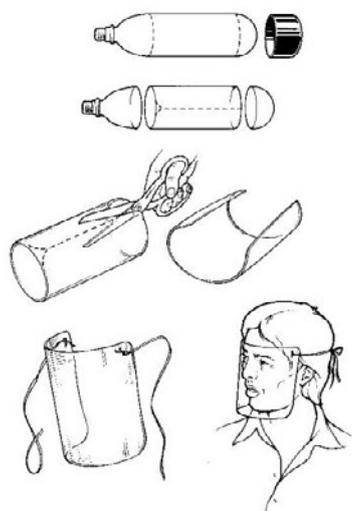

Figure 8 How to make a home-made face shield (Source: stewardshipcommunity.com)
- Make mouth and nose masks using the top of the same plastic bottle. Add a tissue in the top to act as a filter (see Figure 8).